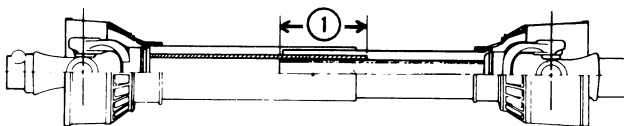

Figure 16
7. Hold the driveline sections parallel to each other and check for a minimum of 5" overlap as shown at, (1), Figure 16. The overlap will be the distance between the two marks on the shields. If the driveline has less than minimum overlap, DO NOT USE. Recheck the mounting of the implement. Adjust the top link to assure the implement is level front to rear. Adjust the lower links to assure the implement is level right to left.